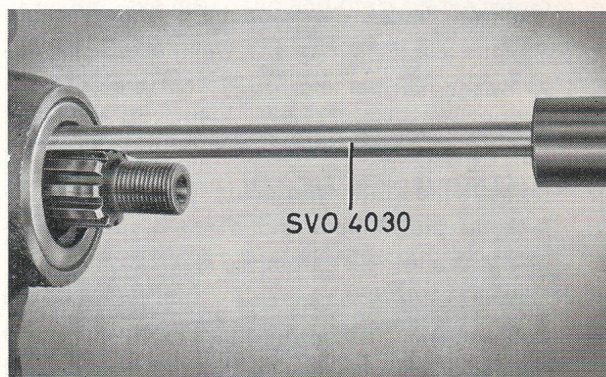
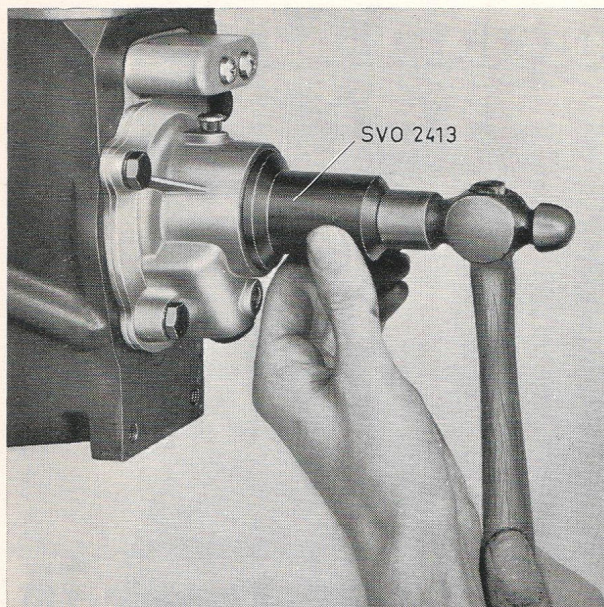

Fig. 17. Removing the oil seal
Fig. 18. Fitting the oil seal
3. Pull out the old oil seal with puller SVO 4030, see Fig. 17. Fit the new seal with the help of sleeve SVO 2413, see Fig. 18.